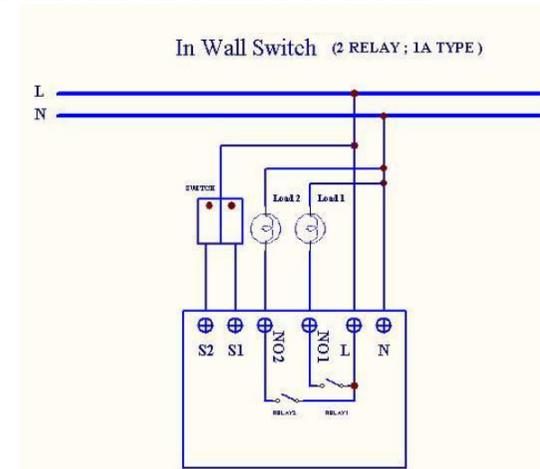

Fig 1. Assembling
2. Connect the wall switch to the PAN30 as Fig1 .